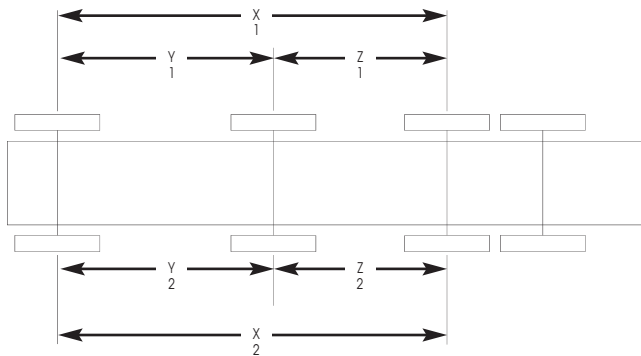

Figure 24
- Measuring from the front axle spindle, move the free (non-slug) axle seat fore and aft until both ends of the axle are equidistant to the front axle spindle (a maximum of 1/8" is commonly considered acceptable). (See Figure 24)